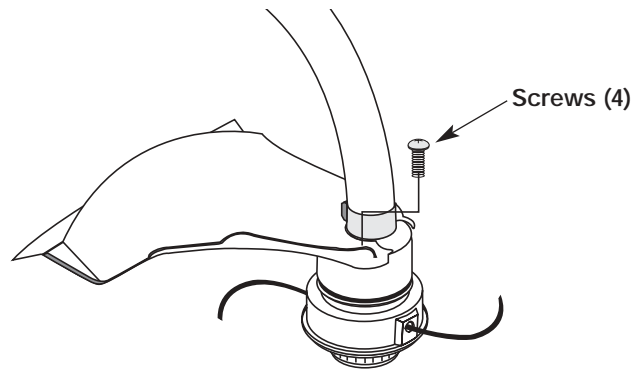

FIGURE 4
3. Install the four (4) screws with a Phillips screwdriver, Figure 4.